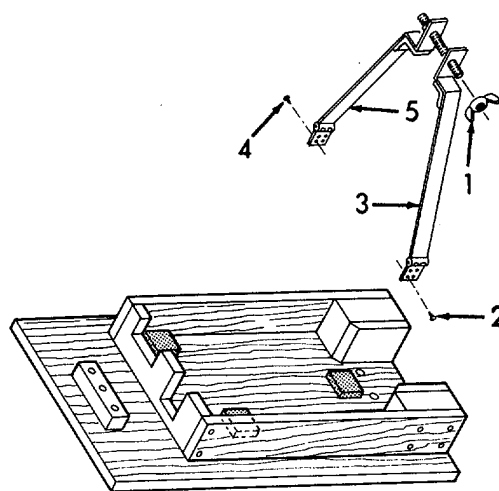

Figure 5-20. Holddown Straps, Replacement.
(1) Replacement of the holddown straps as follows (refer to Figure 5-20).
- (a) Remove wingnut (1).
- (b) Remove four screws (2) and strap (3).
- (c) Remove four screws (4) and strap (5).
- (d) Install strap (5) and four screws (4).
- (e) Install strap (3) and four screws (2).
- (f) Install wingnut (1).